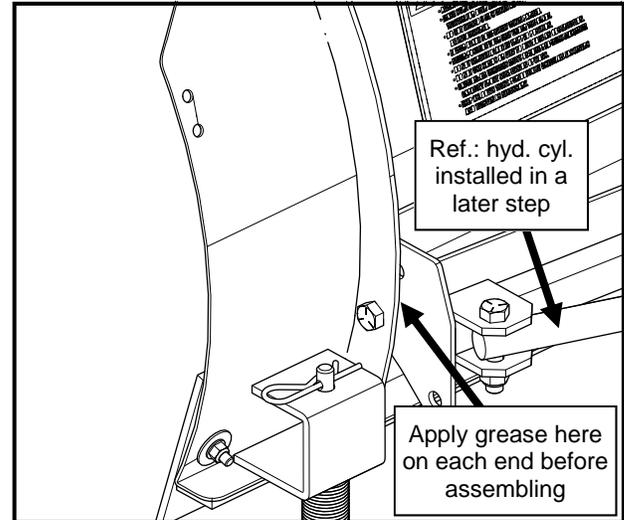

Fig. 1.1—Trip Frame to Moldboard
- 1.1** Per fig 1.1, locate the steel moldboard, trip frame, two 1/2-13 x 2 1/2" bolts, and two 1/2-13 Nylon lock nuts. Apply all-season grease to the mating surfaces on the trip frame and moldboard rib. As shown, line up the mounting hole in the trip frame with the mounting hole on the moldboard rib (near the bottom). Install into the mounting holes a 1/2-13 x 2-1/2" bolt as shown. Install a 1/2-13 Nylon lock nut on the back side of the bolt. Repeat installation of hardware for the right side, orienting the bolt head to face away from the center of the moldboard. Tighten the Nylon lock nuts until all thread slack is removed from the assembly while allowing the trip-frame to rotate freely.